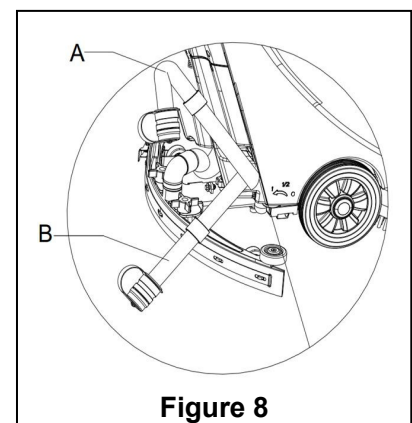

Figure 8
2. By using the squeegee handle (14), lift the squeegee.
4. Grasp the handlebar (2) and gently incline the machine backward until the guide wheel touches the floor. (For docking of the machine please refer to the procedures in the stopping of the machine section.)
5. Take off the draining hose from the fixation clip, bend the top end of draining hose (as shown in **A, Figure 8**), and then open the cover of draining hose, lower draining hose to a low level or on the ground to drain the water. Alternatively, directly place draining hose to a low position or on the ground to make the water
outlet face downward (as show in **B, Figure 8**), and then twist open the water draining lid to drain off the wastewater in the tank. After draining is completed, use pure water to cleanse the inside of recovery tank.
When draining the wastewater, the vacuum tube for waste must be folded or lowered to a lower position (as shown in Figure 8 A or B), and then open the lid of the vacuum tube for waste to drain the water. Do not make the outlet of the vacuum tube for waste face upward to drain the water vertically. This is to avoid wastewater spilling onto the operator.